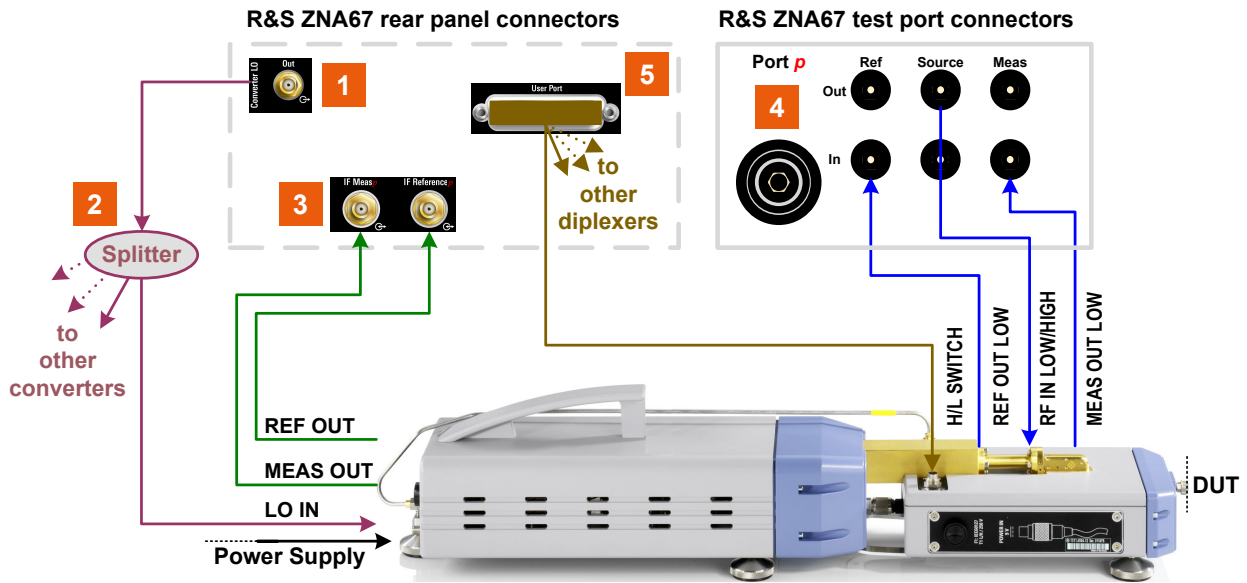

Figure 8-3: Connections of external test set p
3. Connect the RF input and output connectors of the diplexers and the frequency converters as shown in Figure 8-3.